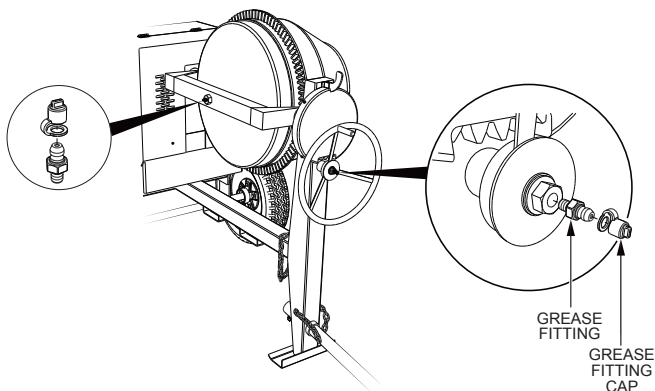

Figure 33. Grease Fittings (Mixer)
1. There are 3 grease (Figure 33) fittings that will require lubrication. Lubricate these fittings **once a week**. Use lithium base grease, grade N0.1.